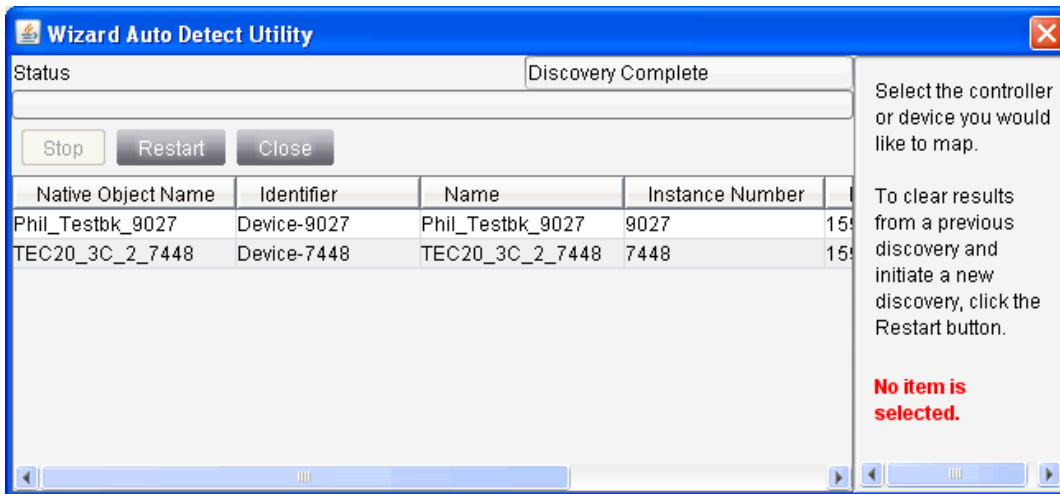

Figure 30: Wizard Auto Detect Utility
5. The **Wizard Auto Detect Utility** screen appears (Figure 30). The supervisory controller discovers all BACnet/IP devices that are correctly configured on its IP subnet. To continue, select the device (TEC20 Coordinator) you want to integrate.